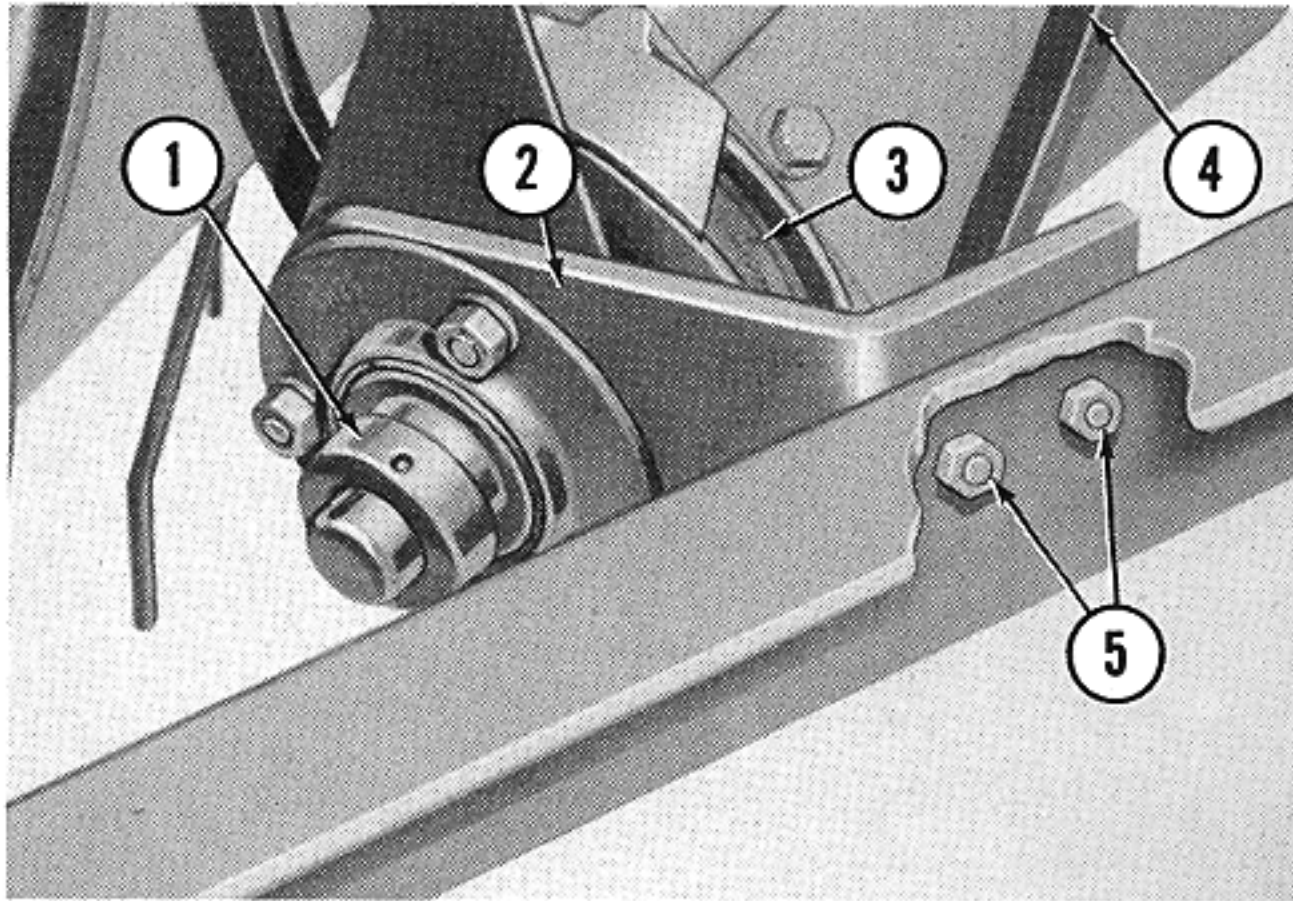
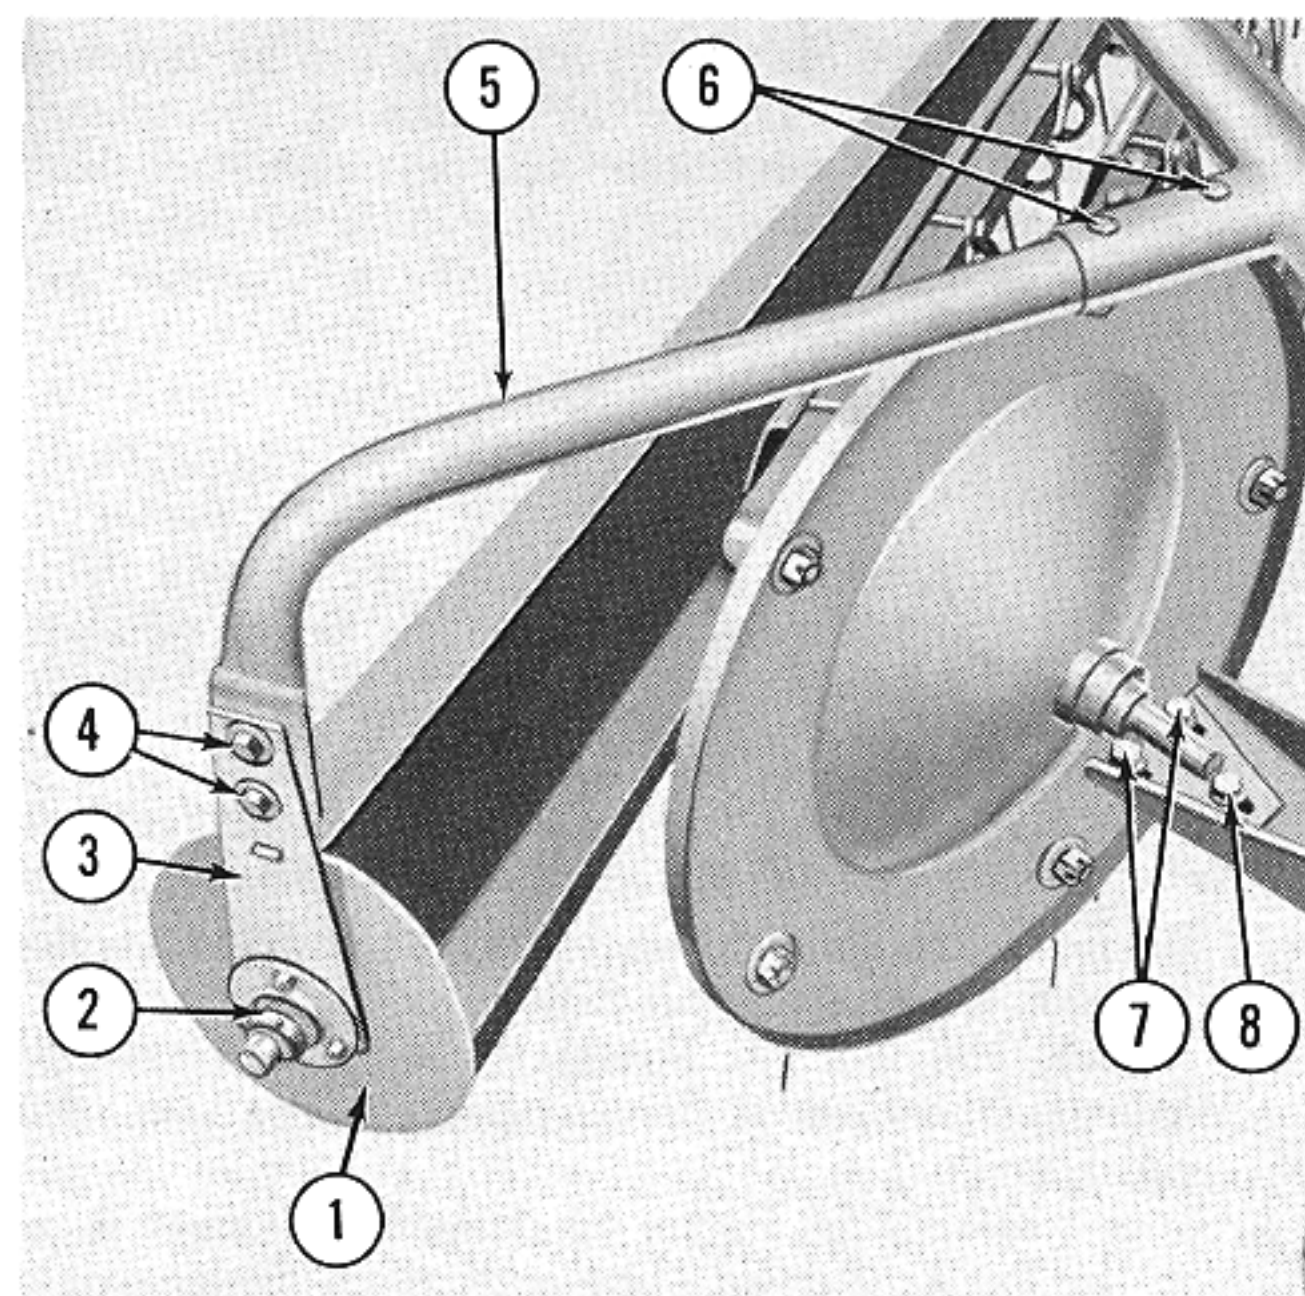

Figure 5
Figure 6
- d. Place a flat washer on each of the two $\frac{1}{2}$ " x $1\frac{1}{2}$ " bolts (7), Figure 6, and insert the bolts through the spindle bracket as shown. Spin the reel assembly several revolutions to align the bearings and secure the three spindle bracket bolts (7) and (8) with the lockwashers and nuts provided.
9. Install the right stripper drive sheave (3), Figure 5, on the small end of the stripper.
10. Install the bearing and bracket (2) Figure 5, on the right end of the stripper. Position the bearing collar on the end of the shaft, but do not tighten the set screw (1) at this time.
11. Install the left stripper support (5) Figure 6, on the main frame with two bolts (6). Secure with the lockwashers and nuts provided.
12. Install the left stripper bearing and bracket assembly (3), Figure 6, on the left end of the stripper. Do not tighten the set screw (2) in the bearing collar at this time.
13. Position the left stripper bearing bracket (3), Figure 6, on the support bracket (5) and secure with two bolts (4), lockwashers and nuts. Place the stripper drive belt (4), Figure 5, around the stripper drive sheave (3). Be sure the right end of the stripper is inside the reel drive belt and attach the stripper right bearing bracket (2) to the frame with the bolts (5), lockwashers and nuts. Tighten the bearing eccentric locking collar at each end of the stripper and secure with the set screws (1), Figure 5 and (2), Figure 6, at this time.
Rotary Stripper: The rotary stripper (1), Figure 6, can be raised or lowered by means of the bolts (4). This adjustment can be made in two 2" increments. The stripper should be positioned low enough to allow clearance of the windrow. Do not allow it to dig in. The distance between the rotary stripper and spring teeth should be 1 inch. Adjust for this distance by means of the slotted holes provided in the bearing bracket (3) Figure 6.
Reel End Plates: It is important that both the right and left reel end plates travel in the same plane. To prevent binding, adjust the end plate by loosening the three bolts (7) and (8) Figure 6. Bring the reel up to speed, allow the bearings to align themselves and tighten the bolts.